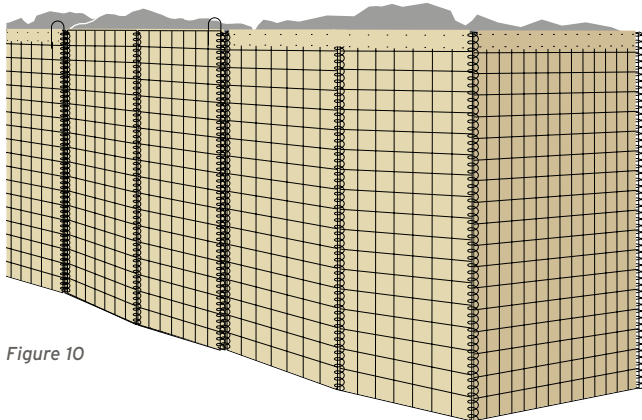

Figure 10
- Refill the unit to complete the repair (*Figure 10*).